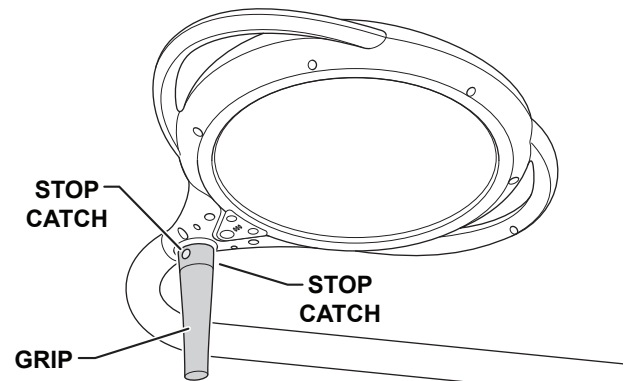

Figure 3. Sterilizable Grip
1. Press the stop catches at the top of the grip to remove (Figure 3).